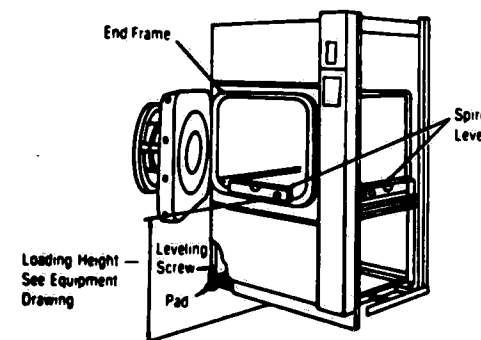

FIGURE 5-1 - Leveling the Sterilizer
1. Check that sterilizer is level side-to-side by placing a level on the bottom of the end ring in door opening. Then check that it is level front-to-back by placing a level on angle brace supporting right side of shell. Adjust leveling feet accordingly to achieve level conditions. See Figure 5-1.